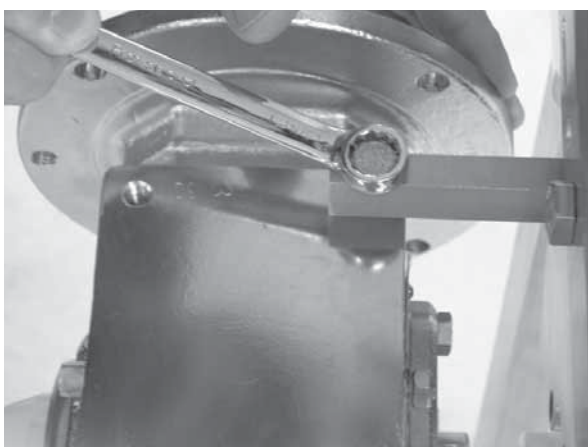

Figure 23
4. Attach the gearmotor assembly (**Figure 23, item 1**) to the gear reducer mounting posts (**Figure 23, item 2**).